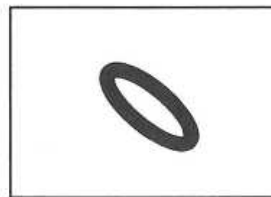

Fig. 1
4. Adjust VR604 so that the lissajous figure is symmetric with respect to the X and Y axes. (See Fig. 1 and 2.)